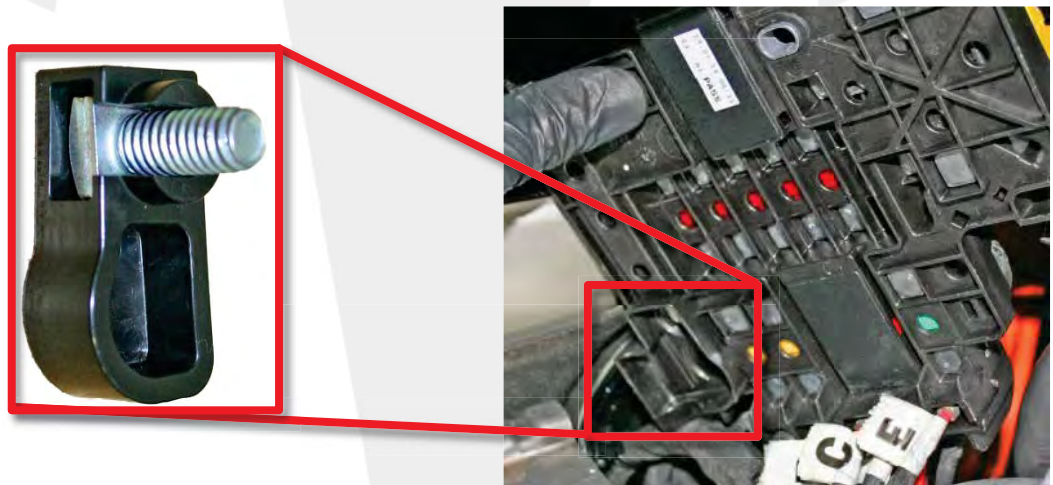

Figure 7
7. Gently lift the fuse box up and remove the floating stud (Figure 7). Set the stud aside.
34. Insert the stud into the bottom of the fuse box (Figure 7) and set the fuse box on top of the upper bracket.